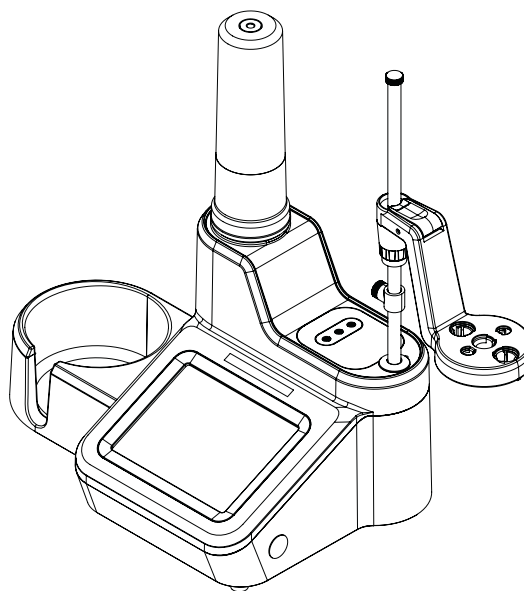

Figure 4. Positioning the Electrode Holder to the Electrode Holder Shaft
3. Adjust the Electrode Holder Head onto the Electrode Holder Shaft by depressing the release button and sliding it to the appropriate location on the shaft. Refer to **Figure 4**.